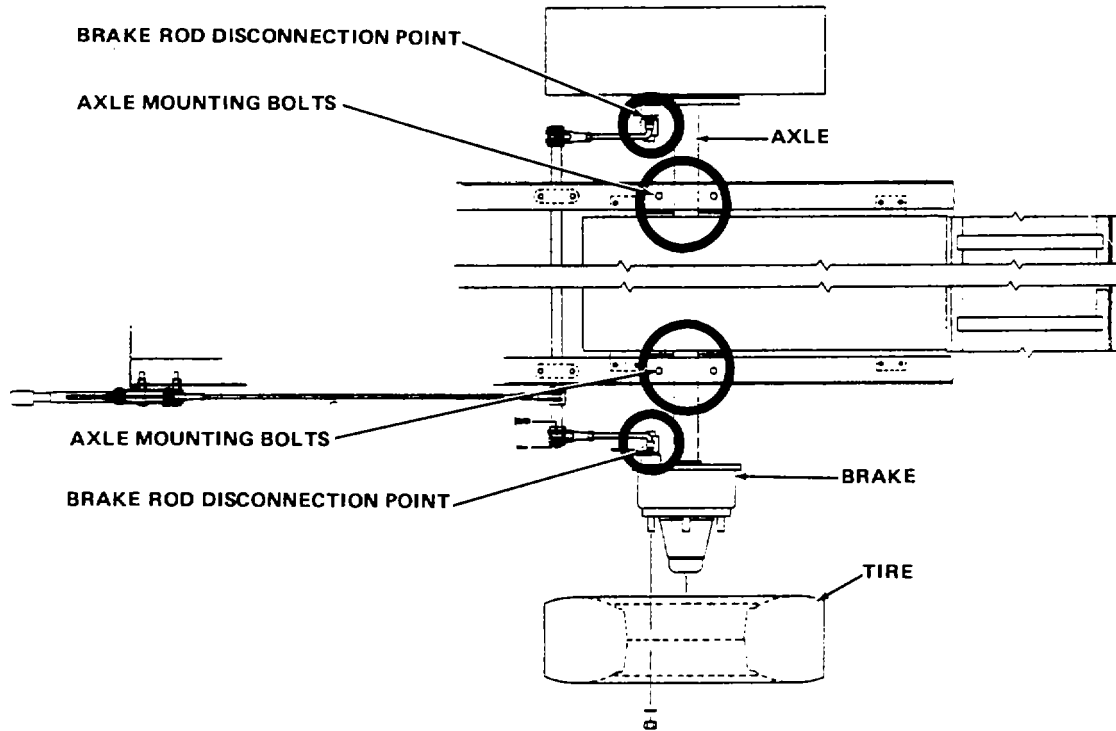

Figure 5-14. Axle Assembly
- (1) Raise compressor off of ground. Support with blocks or jack stands.
- (2) Disconnect brake rods at axle. (Figure 5-14)
- (3) Remove four bolts and washers. (Figure 5-14)
- (4) Remove axle. (Figure 5-14)
- (1) Remove axle (paragraph 5-4). (Figure 5-14)
- (2) Drain fuel.
- (3) Disconnect two fuel lines at top of tank.
- (4) Disconnect wire at fuel level sensor.
- (5) Remove eight bolts and eight washers.
- (6) Remove tank.
- (1) Position fuel tank under frame. Raise tank up to the underside of the frame.
- (2) Align the eight bolt holes in the fuel tank with the eight bolt holes in the frame.
- (3) Secure the tank to the frame with eight bolts and eight nuts.
- (4) Attach wire assembly at fuel level sensor.
- (5) Attach and secure two fuel lines at top of tank.
- (6) Install axle assembly (paragraph 5-4). (Figure 5-14)
- (7) Fill tank with fuel. Verify operation of fuel gage.
- (8) Start engine and check for fuel leaks. Repair any leaks.
- (9) Stop engine.